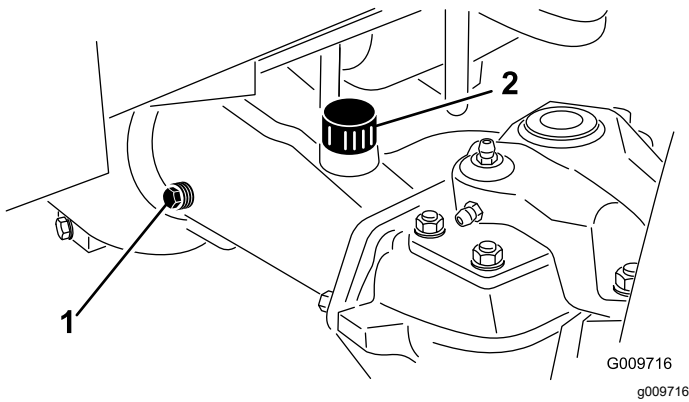

Figure 111
2. Remove a check plug from 1 end of the axle and ensure that the lubricant is up to the bottom of the hole (Figure 111).